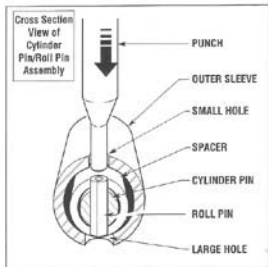

Figure 5-7: Sleeve/spacer with roll pin installed.
- Rotate the outer sleeve on the cylinder pin (see Figure 5-7) until the holes line up to allow access to the roll pin. Use penetrating oil to loosen the sleeve if necessary.
- Carefully inspect the holes in the sleeve. One hole is larger than the other. Position the sleeve so that the roll pin will be pushed out through the large hole. See Figure 5-7.